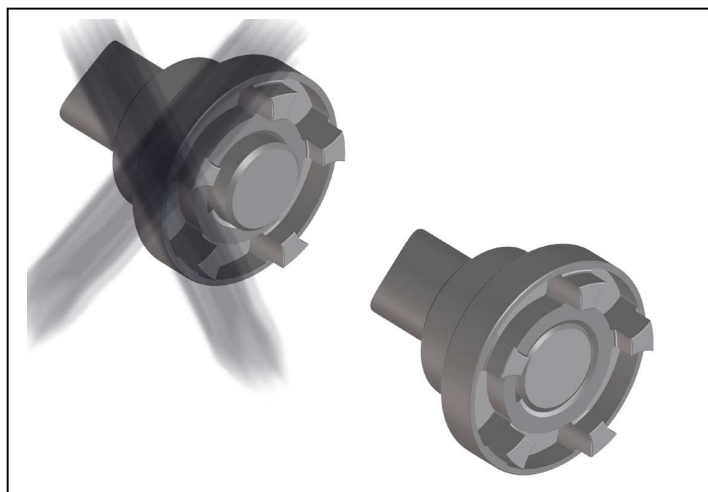

Fig. 4
- Mount the hub so that the shaft ends are flush with the interior borehole opening (Figure 4).